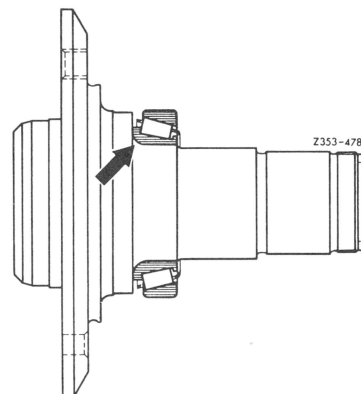

Fig. 12 (new version)
**Caution!** For rear axle shaft flanges of the latest version (Fig. 12) only tapered roller bearings with increased radius may be used (compare Fig. 12 and 13).